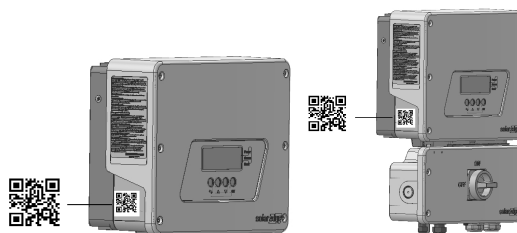

Figure 1: Label location on the inverter with and without Safety Switch
- a. The upgrade communication board sticker, supplied with this kit, now placed on the inverter, see *Figure 1*